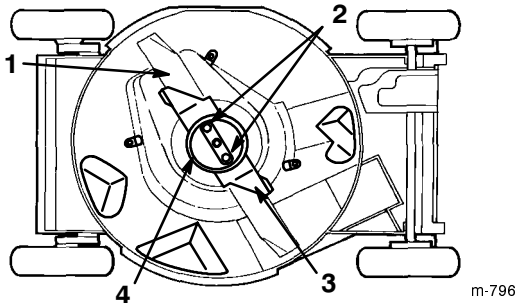

Figure 29
4. Tip the lawn mower onto its **right** side (air filter up) (Fig. 29).
Grasp the end of the blade using a rag or a thickly padded glove. Remove the blade nuts, the anti-scalp cup, the accelerator, and the blade (Fig. 29).
5. Remove two blade nuts, the anti-scalp cup, the accelerator, and the blade (Fig. 29).